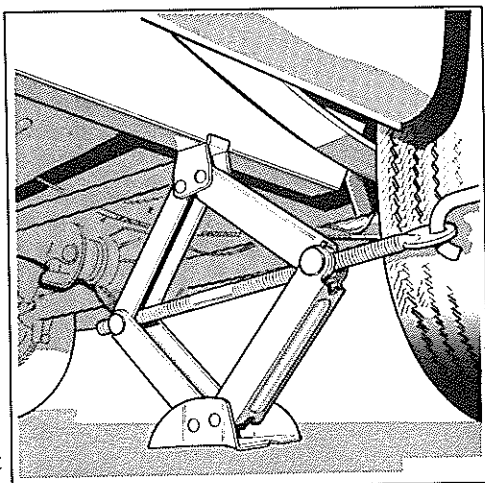

Figure 38 Jacking position – rear
- 1 Jack up the vehicle until one rear wheel is clear of the ground. **(Figure 38)**
The recommended rear jacking point is at the extreme rear end of the longitudinal frame member. (Figure 38)